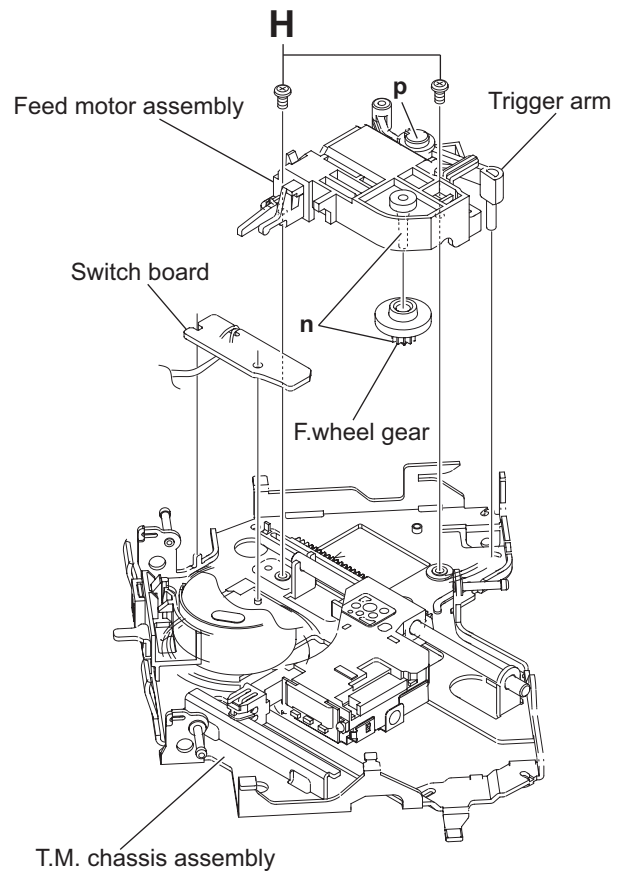

Fig.18
### 3.2.10 Removing the feed motor (See Fig.18 and 19)
- From the bottom side of the T.M chassis assembly, remove the two screws **H** attaching the feed motor assembly. (See Fig.18.)
When attaching the f. wheel gear, trigger arm and feed motor, apply grease to the sections (**n**, **p** and **q**). (See Fig.18 and 19.)
### 3.2.11 Removing the SWITCH BOARD assembly (See Fig.18)